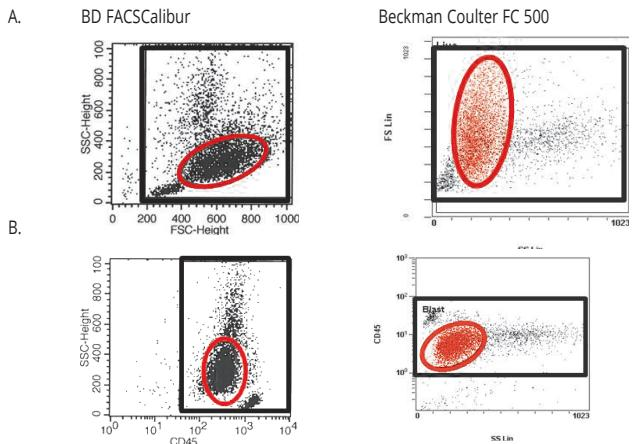

FIGURE 1. Gating methods used to obtain CD117, CD25 and CD71 reference values.
8. Analyze by flow cytometry by gating the abnormal cells and/or a total leukocyte "Live"⁴ gate from a CD45/SSC or FSC/SSC plot. **See Figure 1.**